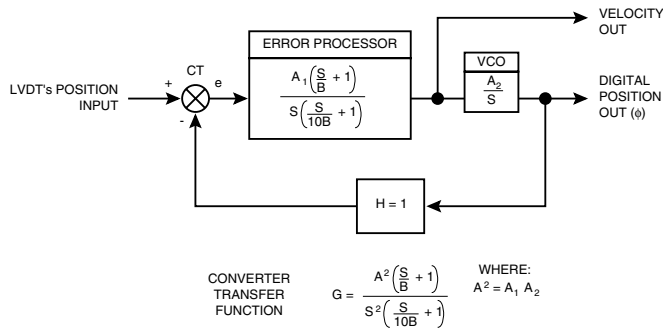
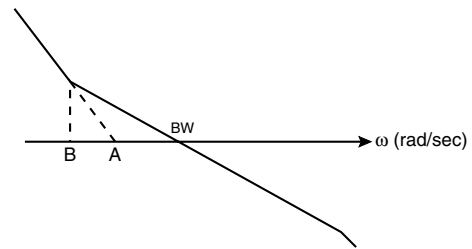

FIGURE 4. CONTROL LOOP BLOCK DIAGRAM
FIGURE 5. OPEN LOOP BODE PLOT
The Velocity output (VEL) from the DTC-19300 is a DC voltage proportional to the angular velocity ($dl/dt = dd/dt$). The velocity is input to the second integrator, as shown in FIGURE 4. Its linearity is dependent solely on the linearity of the voltage controlled oscillator (VCO). An open loop Bode plot is shown in FIGURE 5. Bandwidth (BW) and the acceleration constant (K_a) can be determined by the following formula: